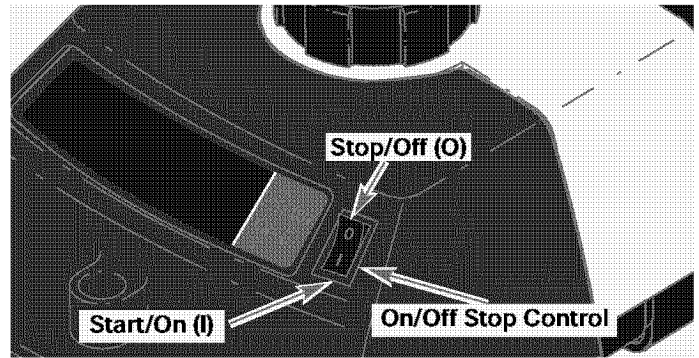
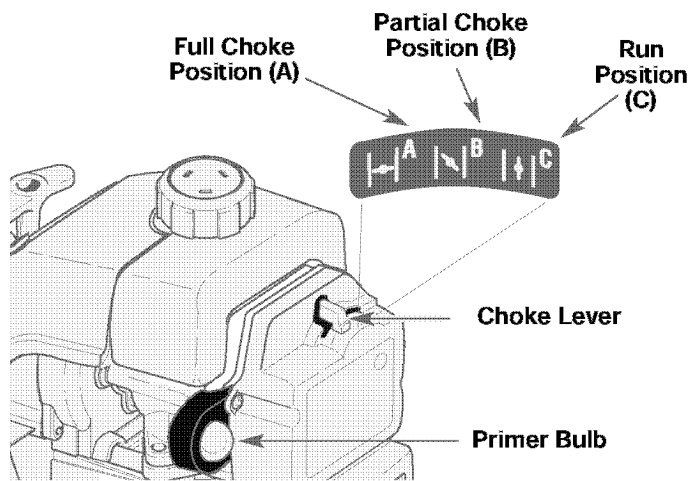

Fig. 6
Fig. 7
2. Put the On/Off Stop Control in the **ON (I)** position (Fig. 6).
3. Fully press and release the primer bulb 10 times, slowly, until **FUEL IS VISIBLE IN THE PRIMER BULB** (Fig. 7). If you can't see fuel in the bulb, press and release the bulb as many times as it takes before you can see fuel in it.
4. Place the choke lever in the **FULL** choke (**A** ) position (Fig. 7).
6. Place the choke lever in the **PARTIAL** choke (**B** ) position (Fig. 7).
**NOTE:** If the engine floods while trying to start, place the choke lever in the **RUN** (**C** ) position (Fig. 7). Squeeze the throttle control. Pull the starter rope briskly. The engine should start within three (3) to eight (8) pulls.
9. Squeeze the throttle control to warm up the engine for 5 to 10 seconds. Place the choke lever in the **RUN** (**C** ) position (Fig. 7).
**NOTE:** Choking is unnecessary when starting a warm engine. Put the On/Off Stop Control in the **ON** position (Fig. 6), and start in **PARTIAL** choke (**B** ) position (Fig. 7). After starting, place the choke lever in the **RUN** (**C** ) position.
2. Put the On/Off Stop Control in the **OFF (O)** position (Fig. 6).